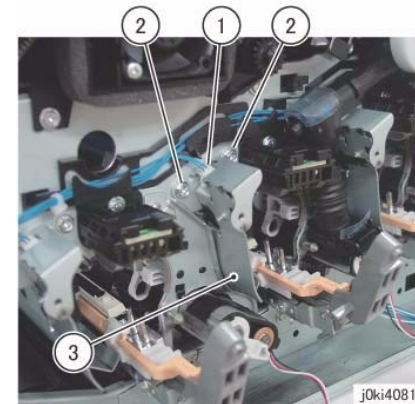

Figure 12 Remove the Erase Lamp Unit (C)
16. Remove the Erase Lamp Unit (C). (Figure 12)
- c. Remove the Erase Lamp Unit (C).